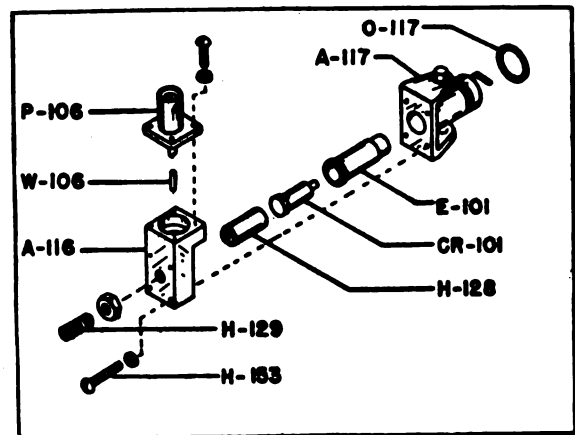

Figure 5-1.
(1) Touch the equipment with your bare hand before attempting to insert the crystal.
(2) If you want to hand the unit to another person, first touch his bare hand with a finger.
e. **REPLACING A CRYSTAL** — Refer to Figure 5-1.
(1) Remove four screws H-153 and lift off top, A-116.
(2) Using a knife edge or fingernails pull out sleeve E-101.
(3) Push new crystal, spacer H-128 and sleeve E-101 back into crystal holder body A-117.
(4) Replace top assembly A-116, making sure wire W-106 is in the top groove of spacer H-128.
(5) Replace and tighten four screws H-153 with lockwashers.